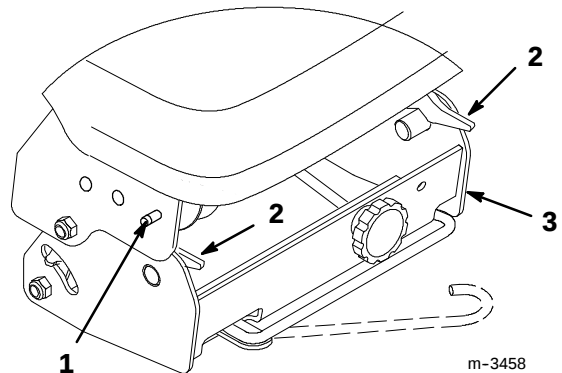

Figure 23
11. If you wish to remove the pulley box, push the latch release buttons on the front Attach-A-Matic **t** (Fig. 23) and raise the latch levers to open the latches holding the pulley box. Remove the pulley box.